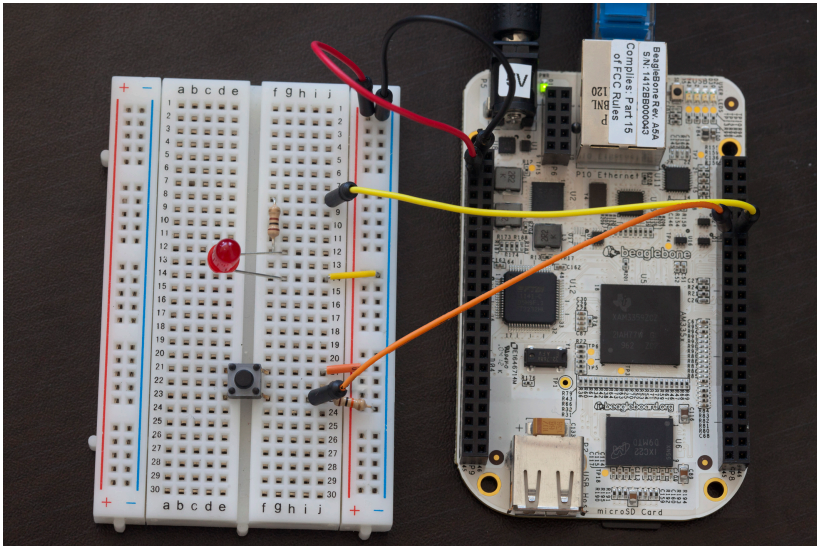

Figure 4-5. A button and LED wired up to the BeagleBone
3. Connect the other lead of the button to the input pin 11 on header P8. (See Figure 4-5 of BeagleBone wired up.)